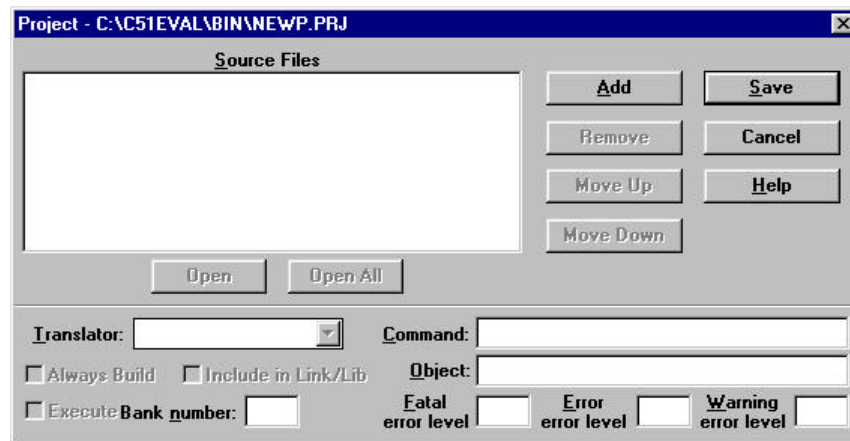

FIGURE 7
- 4) Open the Project menu and choose *Edit Project*. The window shown in Figure 7 appears. This is where you add various files to your project. Note there are no files in the project yet.